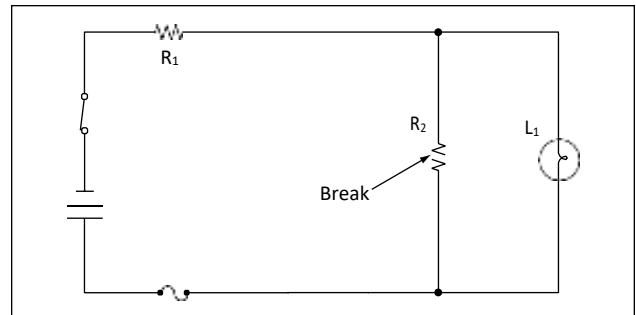

Figure 10-179. An open in the parallel portion of a series-parallel circuit.
2. If the open occurs in the parallel portion of a series-parallel circuit, as shown in Figure 10-179, part of the circuit will continue to function. In this case, the lamp will continue to burn, but its brightness will diminish, since the total resistance of the circuit has increased and the total current has decreased.